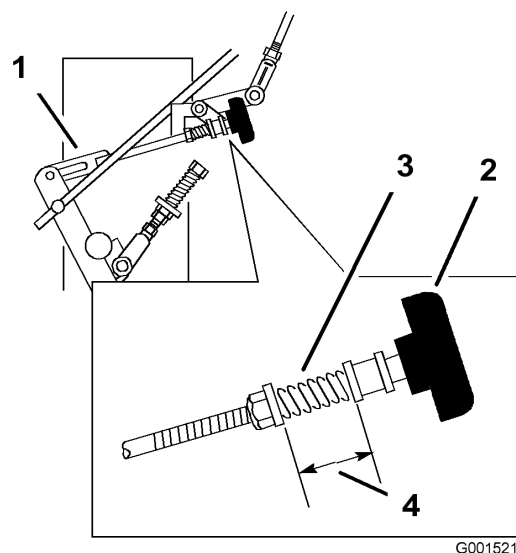

Figure 40
3. Adjust the right side linkage by turning the quick track knob counterclockwise until the tire begins to rotate forward (Figure 40).
4. Turn the knob clockwise 1/4 of a turn at a time. Then move the speed control forward and back to neutral. Repeat this until right wheel stops rotating forward (Figure 40).
6. The spring that keeps tension on the knob should normally not need adjustment. However if an adjustment is needed, adjust the length of spring to 1 inch (26 mm) between the washers (Figure 40).
7. Adjust spring length by turning nut at front of spring (Figure 40).